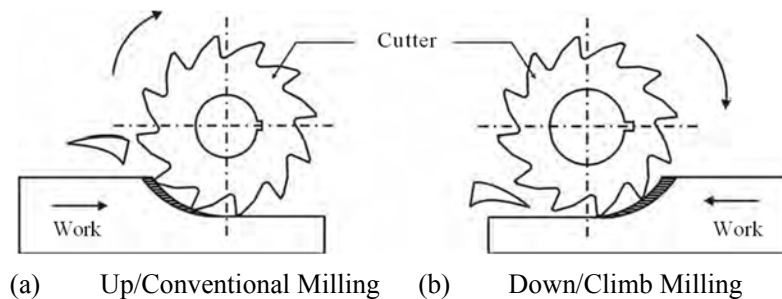

Figure Q5B: Illustration of up and down milling
D. Discuss **TWO (2)** advantages of down milling as compared to up milling (Figure Q5B) and why down milling is less recommended when using an old milling machine?